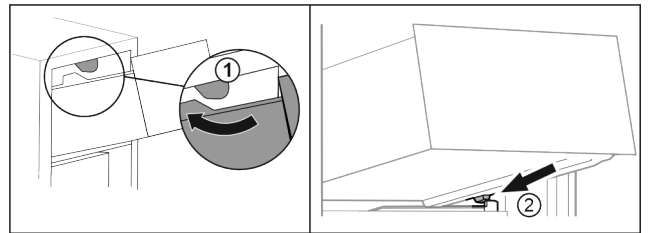

Fig. 133
- ▶ Guide drawer around the upper stoppers. Fig. 133 (1)
- ▶ Place drawer at an angle behind the lower stoppers onto moulded rib. Fig. 133 (2)